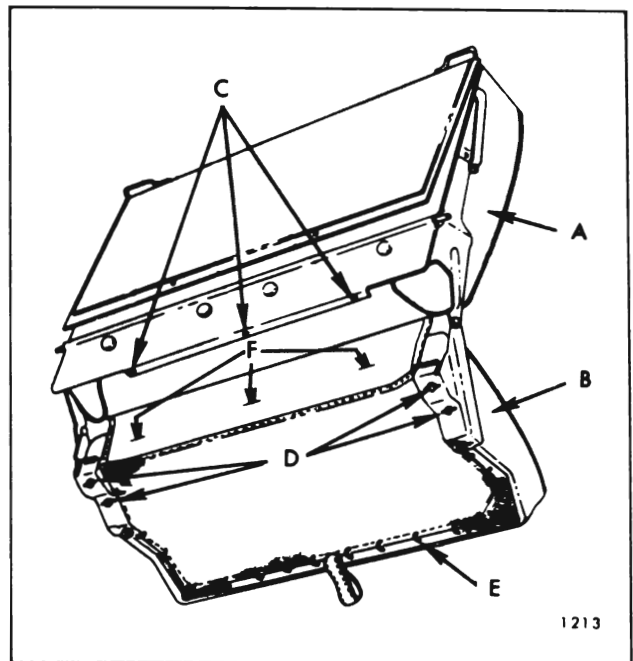

Fig. 15-77 —Folding Third Seat Assembly
2. Remove hog rings securing seat back trim flap to bottom of seat cushion (Fig. 15-77).
4. As a bench operation remove hex-head screws securing seat cushion trim to seat cushion frame (Fig. 15-77) and three screws securing rear edge of seat cushion trim to seat cushion frame; then, remove cushion trim assembly from cushion frame.
3. To remove seat back trim assembly remove seat back trim-to-seat back panel attaching screws (Fig. 15-77); then, lift trim assembly upward to disengage wire loops on seat back trim from slots in seat back panel and remove trim assembly.